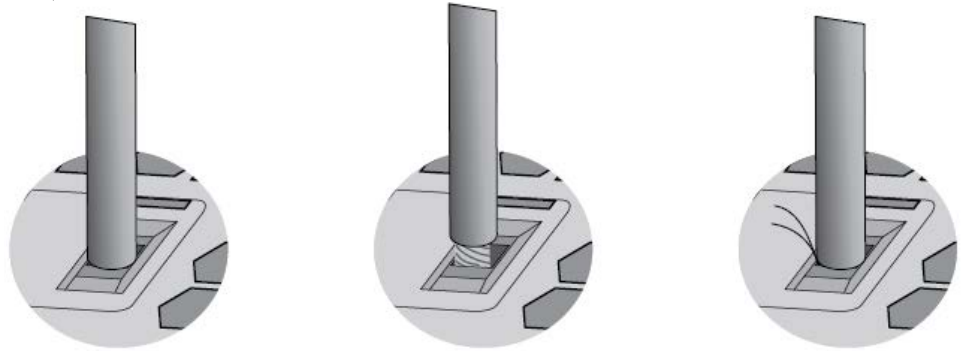

Figure 10. Verifying Wire Installation
- ❑ After installing wires, visually inspect them for exposed wires or loose wire strands. See Figure 10.
4. Visually inspect the wire for exposed wire and loose strands. See Figure 10 on page 35.
5. Visually inspect the wires for exposed wires and loose strands. See Figure 10 on page 35.
6. Visually inspect the wires for exposed wires and loose strands. See Figure 10 on page 35.